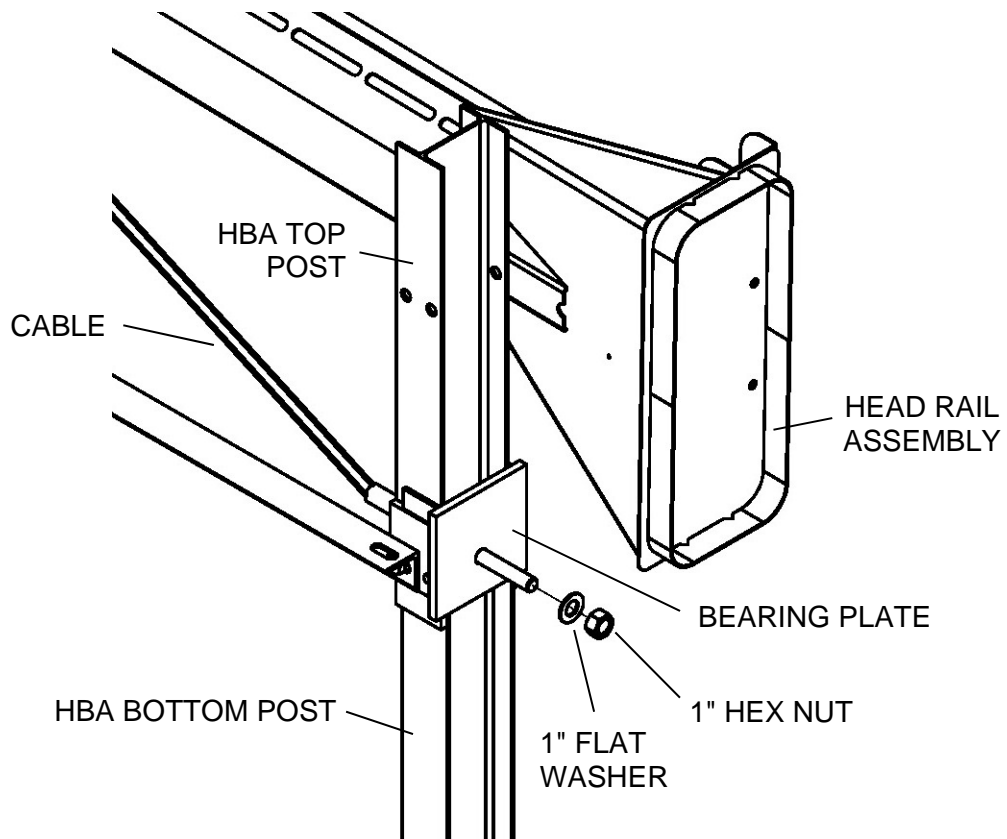

Figure 14 - Cable Attachment
- 7.1 Feed one end of the Cable between the HBA Top Post and HBA Bottom Post and through the Bearing Plate. **Note: The tabs on the Bearing Plate rest on top of the HBA Top Post plates (ears).** Secure the Cable using (1) 1" flat washer and (1) 1" hex nut. Thread the nut approximately 3"- 4" onto the Cable end (See Figure 14).